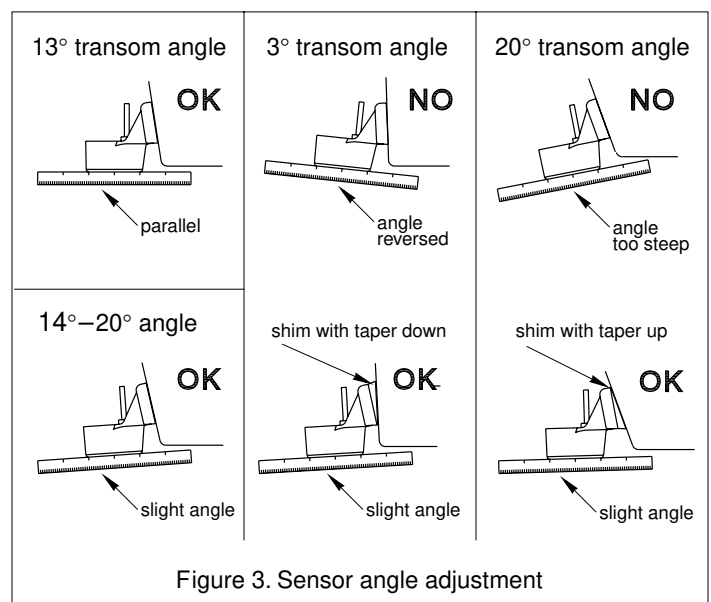
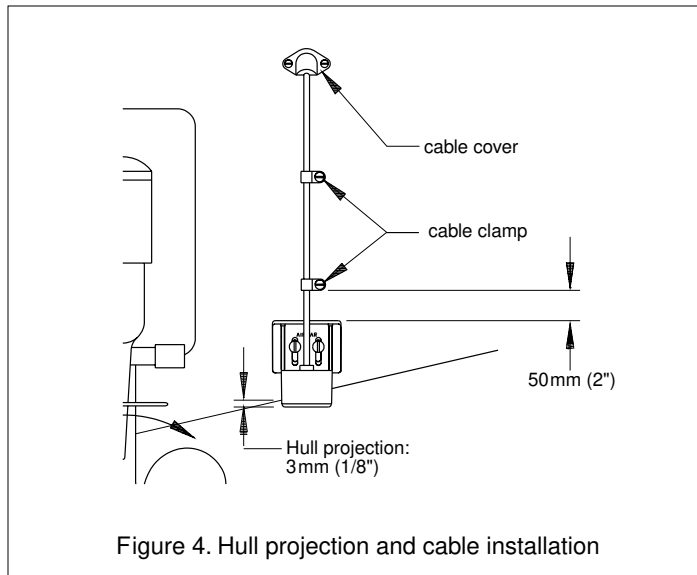

Figure 3. Sensor angle adjustment
Figure 4. Hull projection and cable installation
- **If you know the transom angle of your boat** (see Figure 3):
To determine if the shim is needed, position the sensor at the selected location. Using a straight edge, sight the underside of the sensor relative to the underside of the hull. The stern of the sensor should be 1–3mm (1/16–1/8") below the bow of the sensor or parallel to the bottom of the hull (see Figure 3).
3. Using the vertical adjustment space on the bracket slots, slide the sensor up or down to provide a projection of 3mm (1/8") (see Figure 4). Using the straight edge, sight the angle again to ensure that it is correct (see Figure 3). When you are sure the hull projection and sensor angle are correct, use a pencil to mark the hull with the bracket's *exact* location.
3. On the outside of the hull secure the cable against the transom using the cable clamps. Position a cable clamp 50 mm (2") above the bracket and mark the mounting hole with a pencil (see Figure 4).